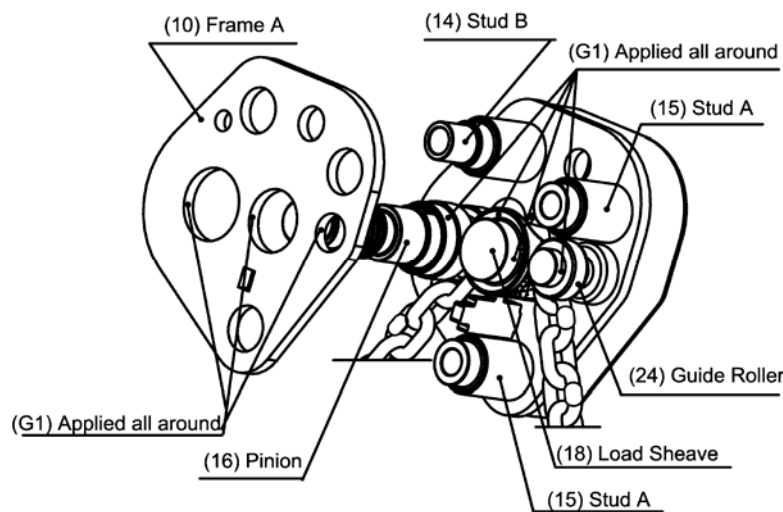

Figure 5-11 Frame A Attachment
Refer to Figure 5-11.
- The hole rim for (16) Pinion in (10) Frame A or the equivalent section on the pinion
- The hole rim for (18) Load Sheave in (10) Frame A or the equivalent section on the sheave
- The hole rim for (24) Guide Roller in (10) Frame A or the equivalent section on the roller
- 2) Align Frame A with (16) Pinion, (18) Load Sheave, (24) Guide Roller, (15) Stud A, (14) Stud B and (25) Stripper, and attach them as shown in Figure 5-11.